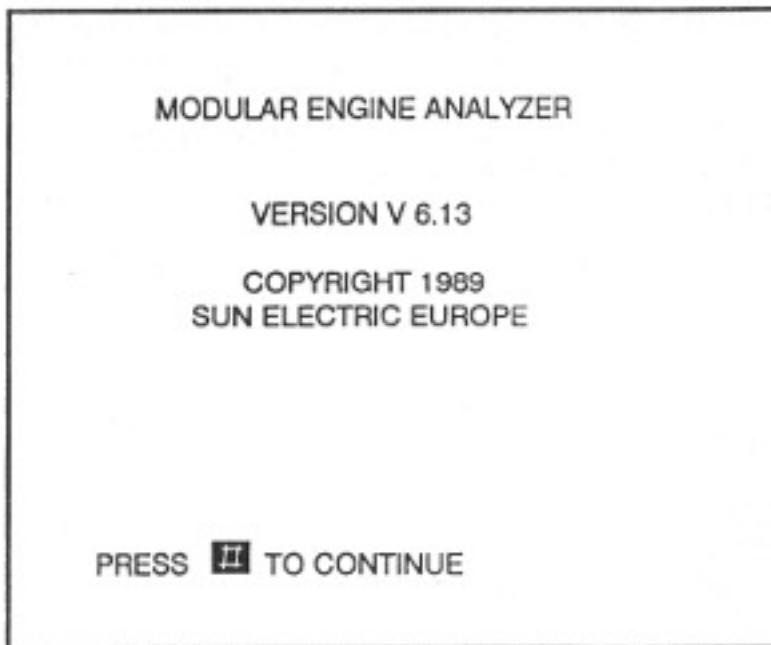

FIGURE 28. This is the first page the operator will see after the MEA-1500 SL is turned on.
2. Push the two-position AC power switch (tester ON, tester OFF) to the tester ON position (Figure 27). A title page (Figure 28), with a copyright notice and software version number, will be displayed upon power-up.